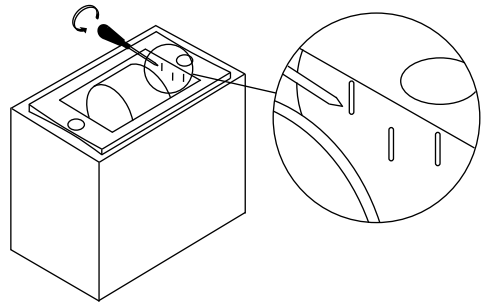

Fig 6
3. Undo the screws holding the fixing plates to the Gruppo Incasso (Fig 6).